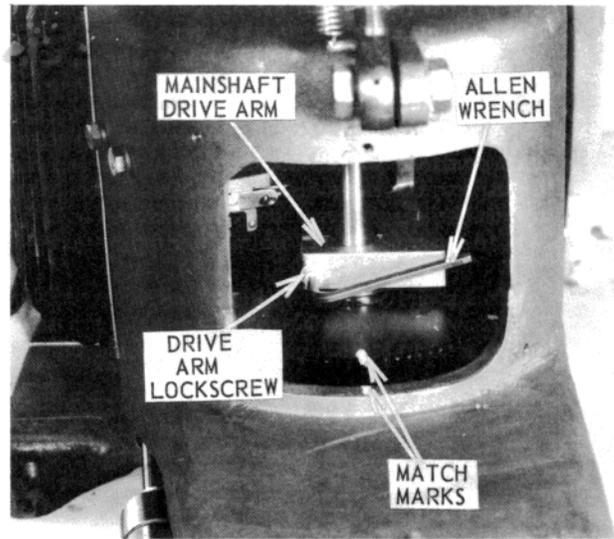
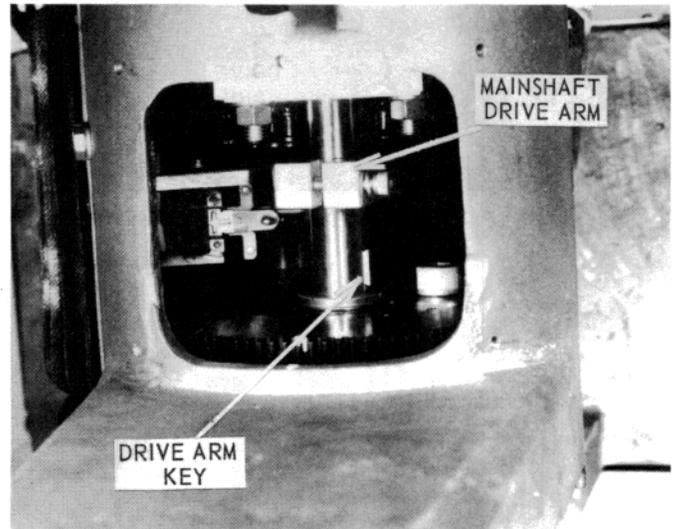
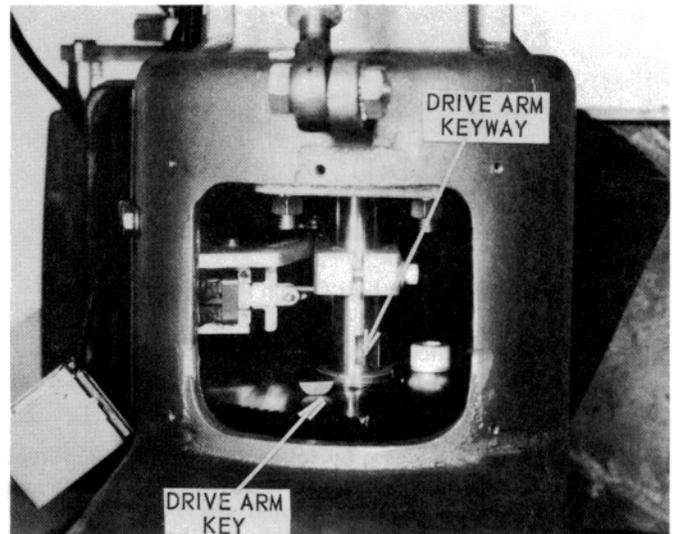

Figure 35 – Mainshaft Drive Arm and Lock Screw
Figure 36 – Mainshaft Drive Arm and Key
Figure 37 – Mainshaft Drive Arm and Key
- 1.2.12 Paint match mark on mainshaft gear and housing to retain orientation (see Figure 35).
- 1.2.13 Loosen the mainshaft drive arm lock screw (see Figure 35), slide the drive arm upward (see Figure 36), and remove the drive arm key (see Figure 37).